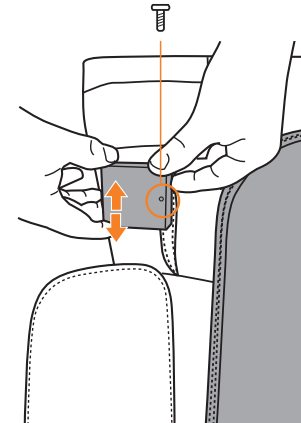

Fig.18
4. If the screw is not exposed, flip the battery compartment over (without disturbing the wiring) to expose the screw, then use the provided screwdriver to remove the screw (Fig.18).